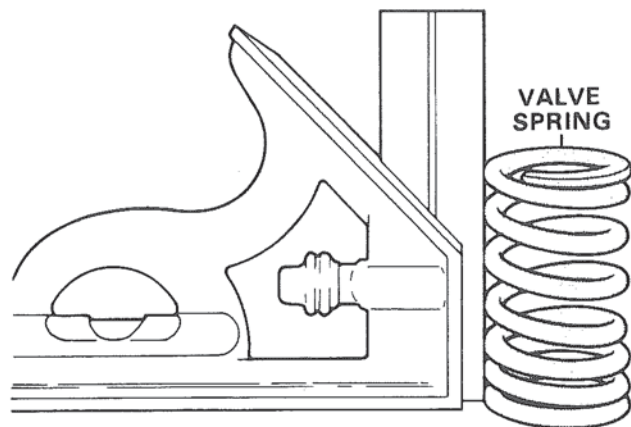

Figure 30. Checking Spring Squareness.
A. Check squareness by standing spring on a flat surface, place a square next to spring. Figure 30.